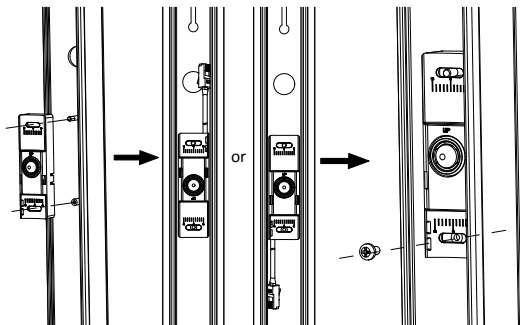

Figure 2-18 Install and Secure Lens Bracket
5. Route cable and fit the lens bracket into the base. Use a screw to secure the lens bracket. See Figure 2-18.